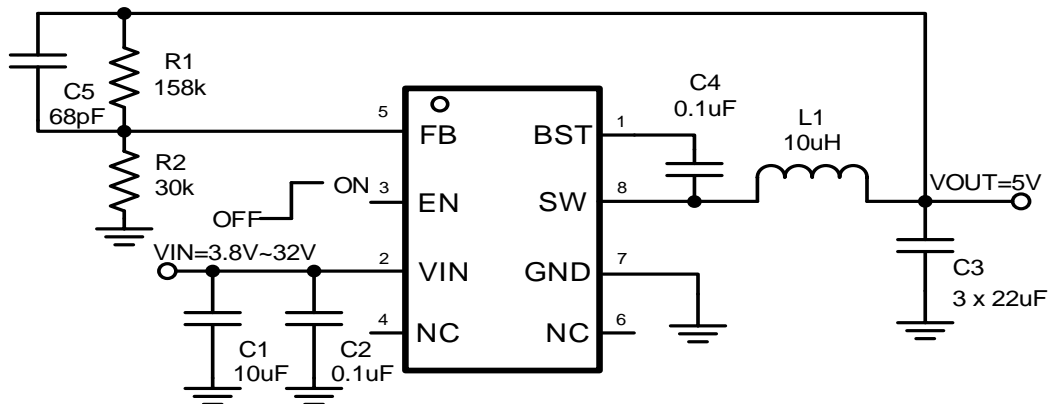

Figure 14. 24V Input, 5V/2A Output
The SCT9320 features external programmable output voltage by using a resistor divider network R_1 and R_2 as shown in the typical application circuit Figure14. Use equation (11) to calculate the resistor divider values.